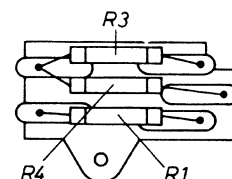

Fig. 18.1
- 1.5 Unsolder the two resistances R4 and R3 (see Fig. 18.1).